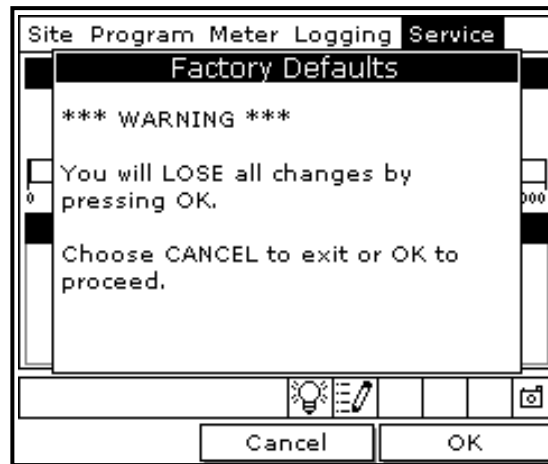

Figure 65: Factory Defaults Window
4. Use the arrow keys to scroll to Factory Defaults and press **[ENTER]**. The screen appears similar to *Figure 65*.